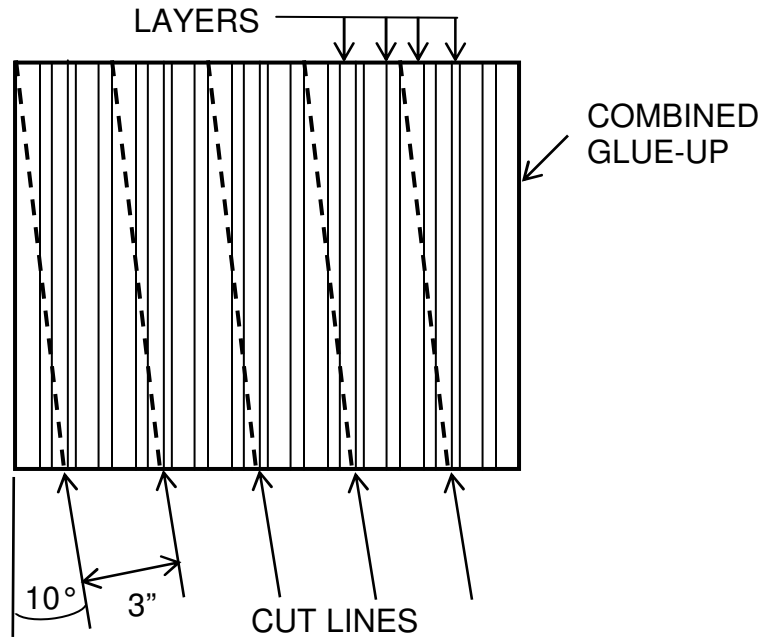

Figure 1. Roller Blank Cut Lines
12. After the glue is set and the clamps are removed, draw a line on the side of the combined stack starting at one corner and going at an angle of 10 degrees to the end face. Mark additional lines parallel to the first line and 3 inches apart across the blank. See Figure 1, below. Using the band saw, cut along each of the 10 degree lines. Then square the ends of each of the separate roller blanks to a length of 11½”.